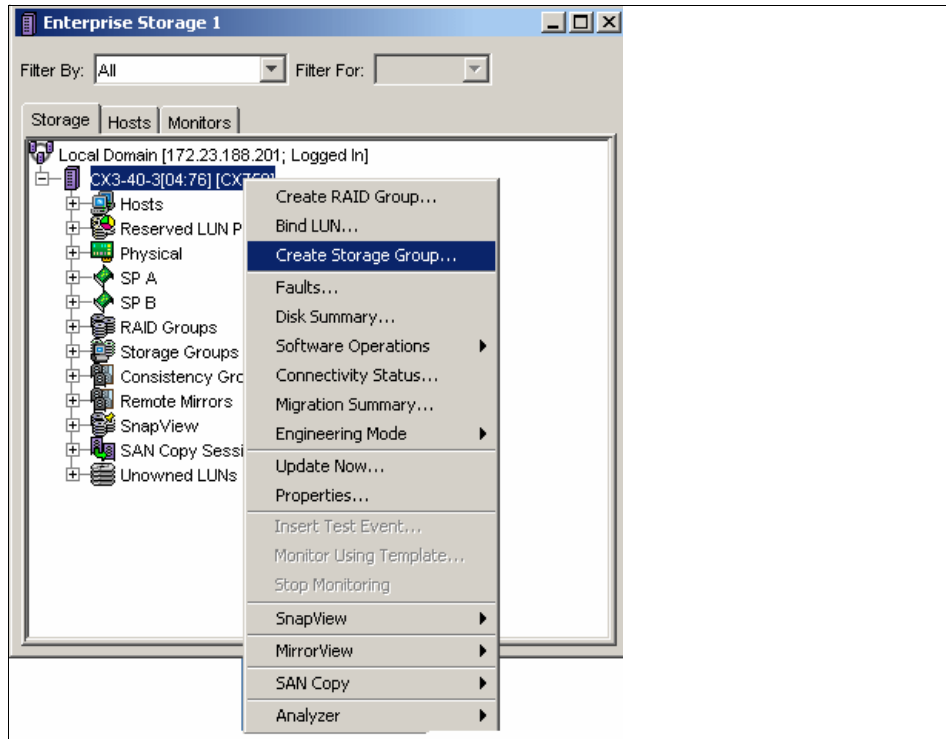

Figure 8-30 Enterprise Storage 1 window
1. Launch the Web browser (Internet Explorer 6.0 or higher) and point to the IP address of the EMC CLARiiON CX700 Storage device. The menu in Figure 8-30 on page 251 is displayed.